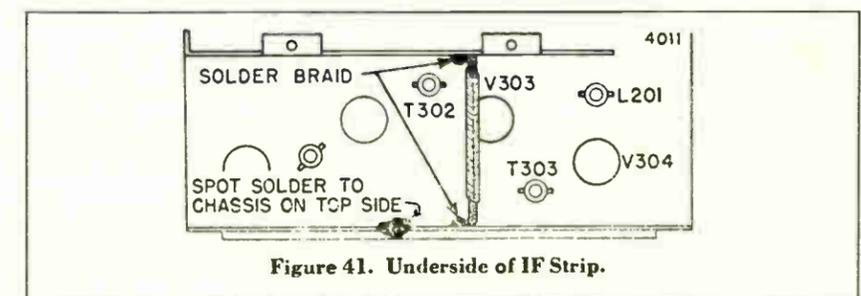

Figure 41. Underside of IF Strip.
k. Solder a 3¼ inch length of ¼ inch shield braid (part number 95A12-6) from the top shield on the IF strip to the chassis; see figure 41. Before soldering shield braid, insulate it by slipping a 2 inch length of insulating tubing over it. Note: Some early sets may already have the wire braid shield added.